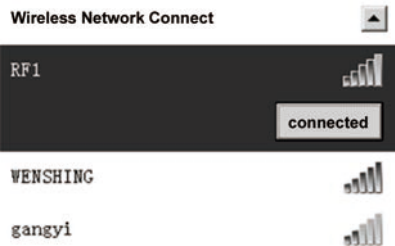

Figure 34
11. When set up complete, PC connect the network of handheld reader (like the RF1 network), click connect RF1 network(Figure 34).